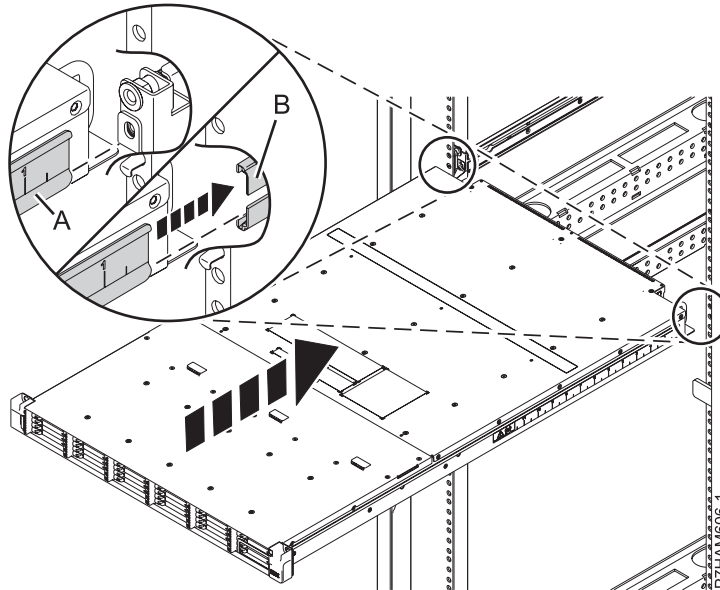

Figure 13. Fitting the enclosure into the rail sheath
- c. Simultaneously, insert both of the chassis bracket guides (A) into the rail sheath (B) opening, as shown in Figure 13.